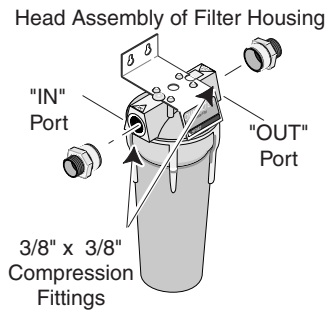

Figure 3
5. Install one of the threaded compression fittings into the "In" port of the Filter Head Assembly and the other compression fitting into the "Out" port of the Filter Head Assembly. Use a wrench and tighten the two fittings into the filter housing head. **NOTE:** The "IN" and "OUT" ports are marked on the top of the filter housing. See Figure 3.